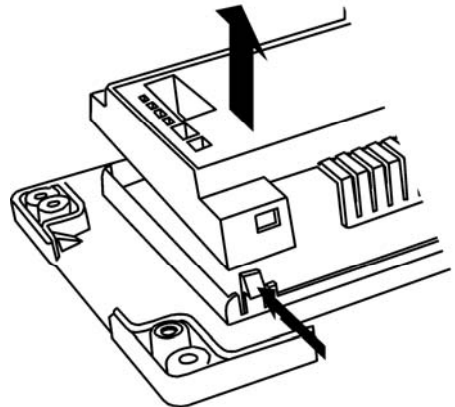

Fig 1
- ❑ Using a small screw driver, carefully push the clip inwards whilst lifting the PCB cover upwards (see Fig 1). When the PCB cover is removed, the PCB will be visible.